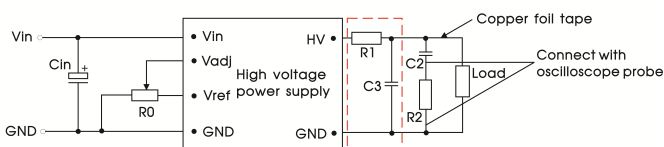

Fig.4 Ripple and noise test recommended circuit
① Please refer to fig.4 for the test method of ripple and noise, the product is working by the linear power source;